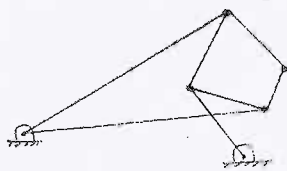

Fig. Q2 (b)
- Determine the mobility of the system shown in Fig. Q2 (b). (05 Marks)